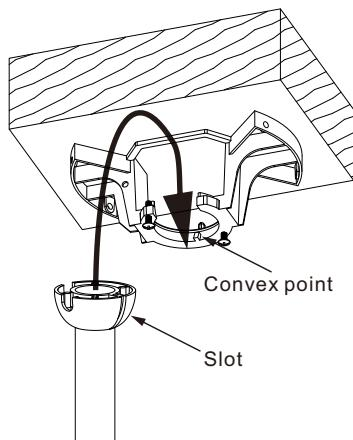

Figure 15
**Step 9.** Place the downrod ball into the hanger bracket socket. (Fig. 15) And rotate fan and downrod assembly until tab on bracket lines up with slot on ball.